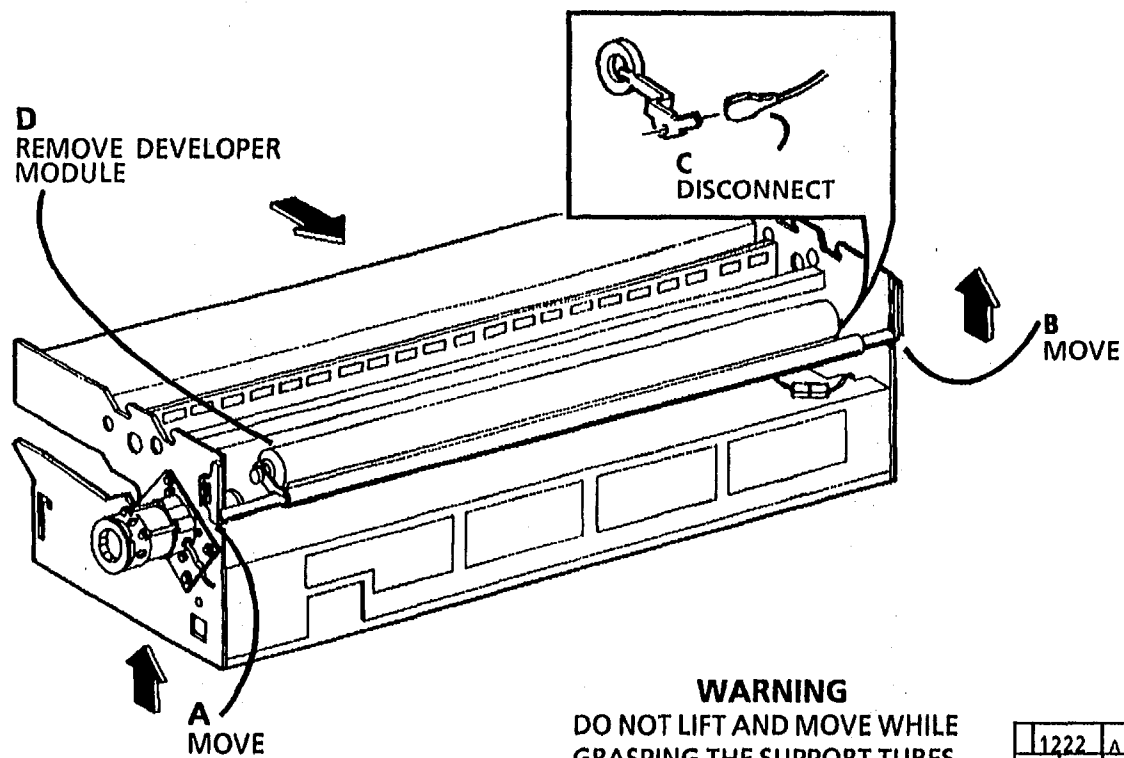

Figure 1. Remove the Developer Module
3. (Figure 1): Remove the developer module.